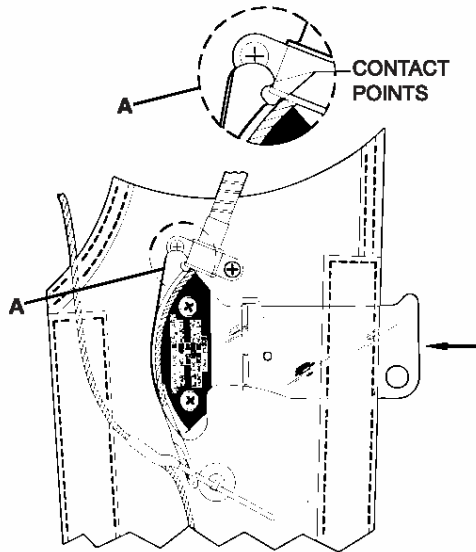

Figure 3. Contact Points.
- c. Refer to Figure 3. Slide the metal head of the slack checker under the power cable from the right side so the cable slips into the curved groove between the metal head and plastic handle. Engage the two contact points on the hooked end of the slack checker with the mouth of the end fitting of the power cable housing. The slack checker should be held flat against the parachute pack. The two contact points must be engaged at all times to ensure proper inspection.